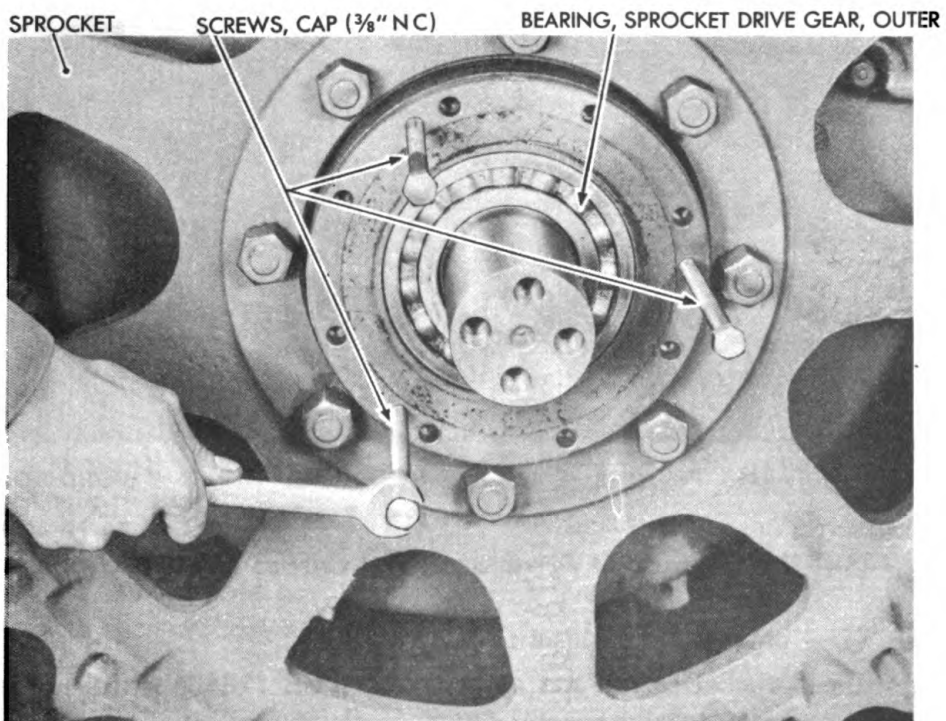

Figure 120 — Sprocket Drive Gear Outer Bearing Cage Removal
(4) REMOVE SPROCKET DRIVE GEAR OUTER BEARING CAGE (fig. 120).